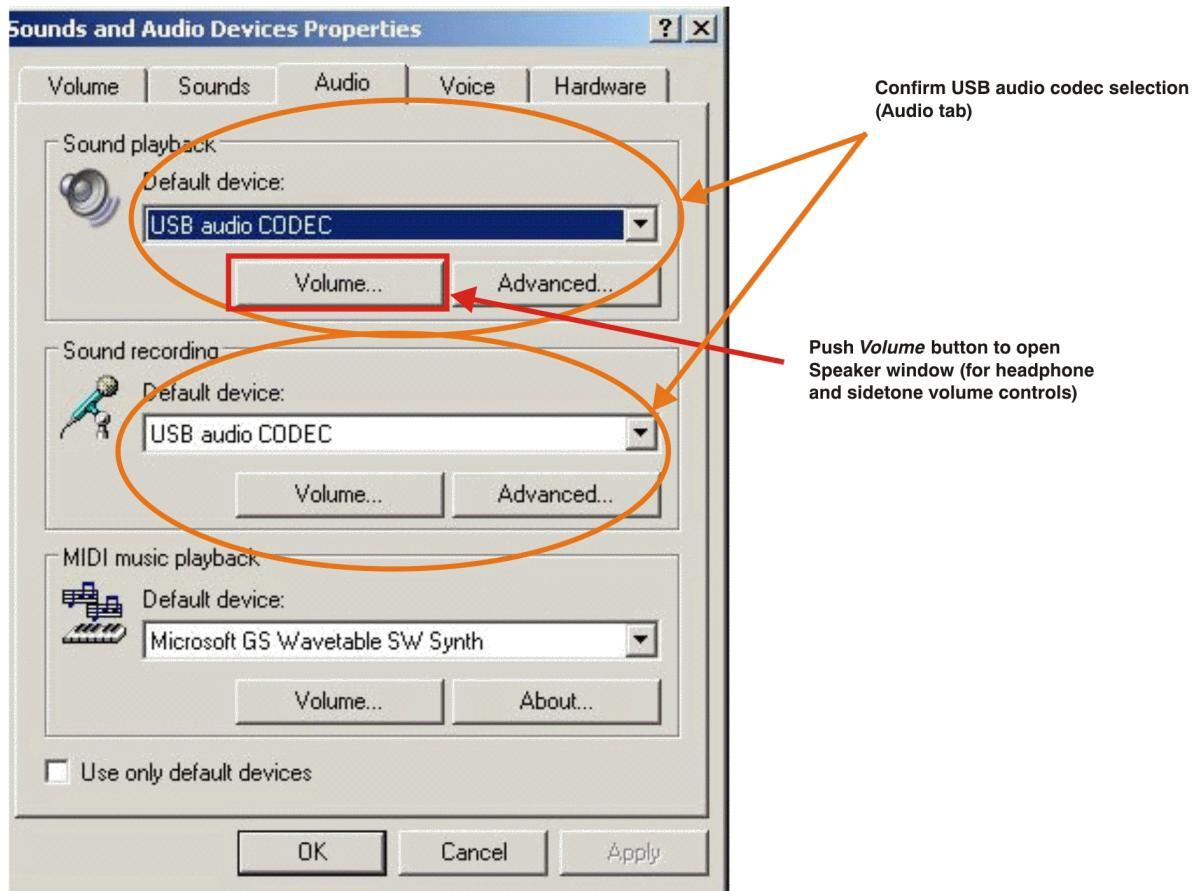
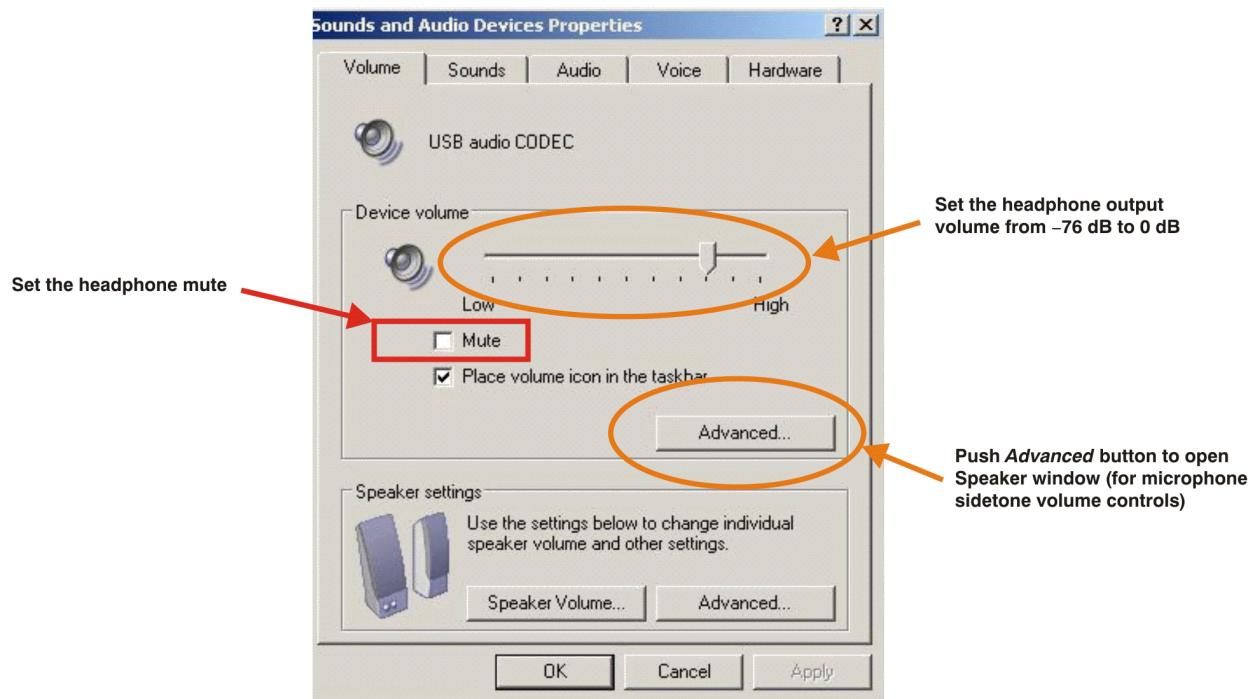

Figure 3-7. Sound and Audio Devices Properties—Audio Tab (Windows XP)
Figure 3-8. Sound and Audio Devices Properties—Volume Tab (Windows XP)
- Step 3. Select the *Audio* tab and confirm the USB audio codec appearance as the default playback and recording device, as shown in Figure 3-7.
- Step 2. Open the *Sound and Audio Devices Properties* dialog box and select the *Volume* tab, as Figure 3-8 illustrates. Alternatively, open the *Speakers* window from the *Volume* selection box (on the *Audio* tab) or the *Advanced* selection box (on the *Volume* tab); see Figure 3-7.
1. Open the Speakers options from the *Volume* selection box (on the Audio tab) or the *Advanced* selection box (on the Volume tab); see Figure 3-8. Alternatively, double-click the speaker icon (if displayed) in the lower right-hand area of the Windows taskbar (at the bottom of the screen); see Figure 3-7.